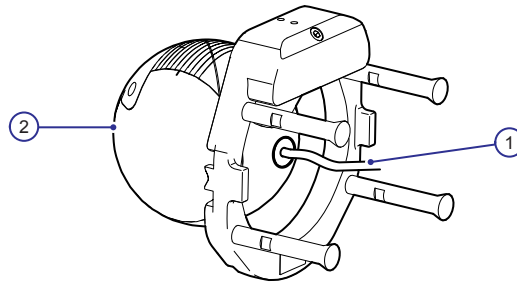

Figure 1.6 The ionization chamber inserted into the dosimetry phantom
- 2 Insert the ion chamber (1) into the ion chamber housing at the bottom of the phantom base (2), see Figure 1.6